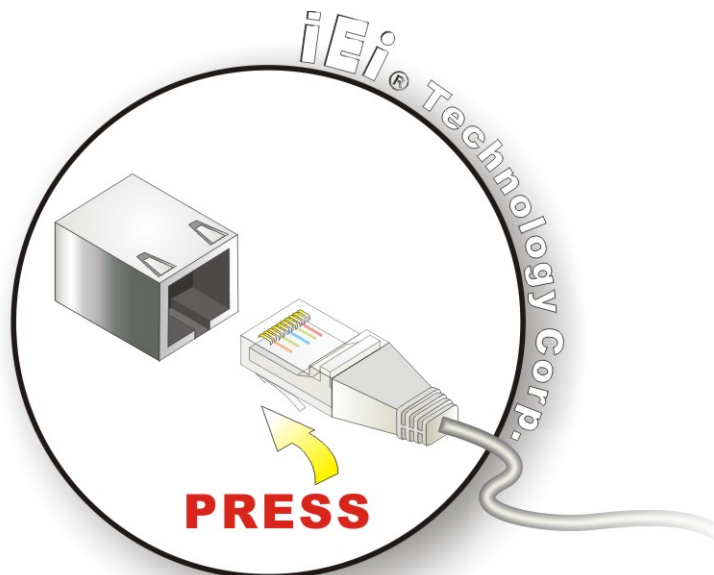

Figure 4-19: LAN Connection
Step 2: **Align the connectors.** Align the RJ-45 connector on the LAN cable with one of the RJ-45 connectors on the PICOe-HM650. See **Figure 4-19**.